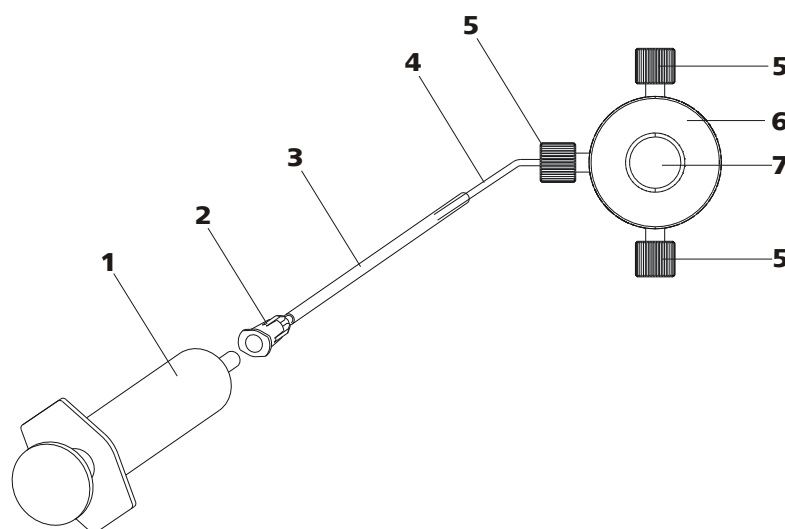

Figure 16 Deaerate the high pressure pump
Deaerate the high pressure pump as follows (see Figure 16, page 31):
- Insert syringe (16-1) in the Luer connector (16-2) of the purging needle (see Figure 16, page 31).